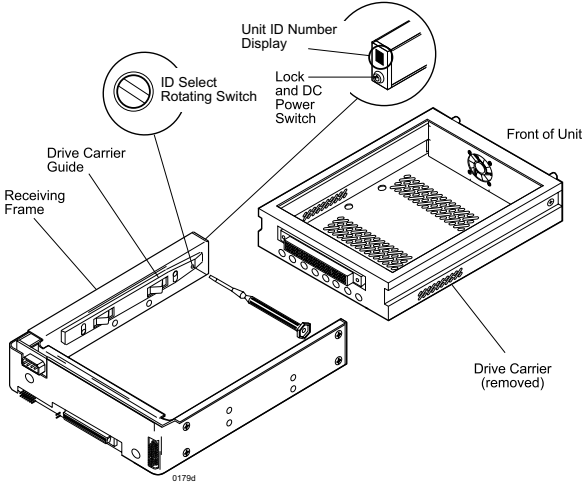

Figure 10: Unit ID Select Switch Location
**Remote Unit ID Selection:** Pins 1-8 of this connector are provided for remote unit SCSI ID selection through the computer system. Remote ID selection requires that the unit ID switch located on the inside of the receiving frame be set to "0" (onboard ID selection is set with a switch located on the inside of the receiving frame as shown in Figure 10). See Table 1 for pin assignments.
**Factory-Installed Jumpers:** There are two (2) jumpers factory-installed on W1. These jumpers are located on Pins 9 & 10, and Pins 19 & 20.
3. Use the alignment tool supplied with the Ultra320 DE100 to select the unit ID number of the disk drive. Refer to Figure 10 for the location of the unit ID select switch inside the receiving frame.